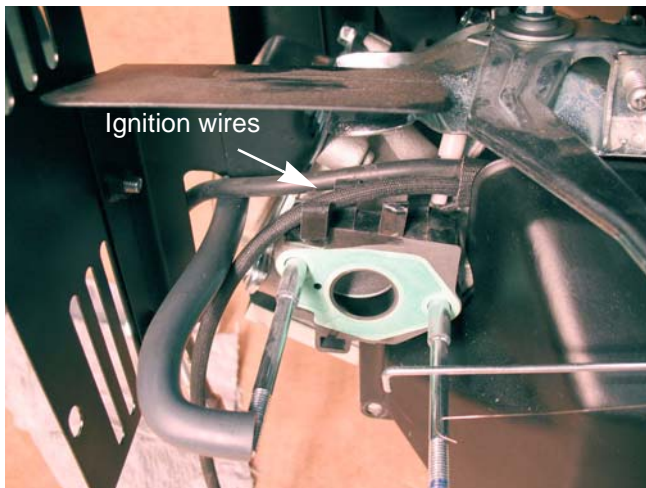

Figure 3.7
4. Unhook the ignition wires from the clip molded into the insulator plate. See Figure 3.7.